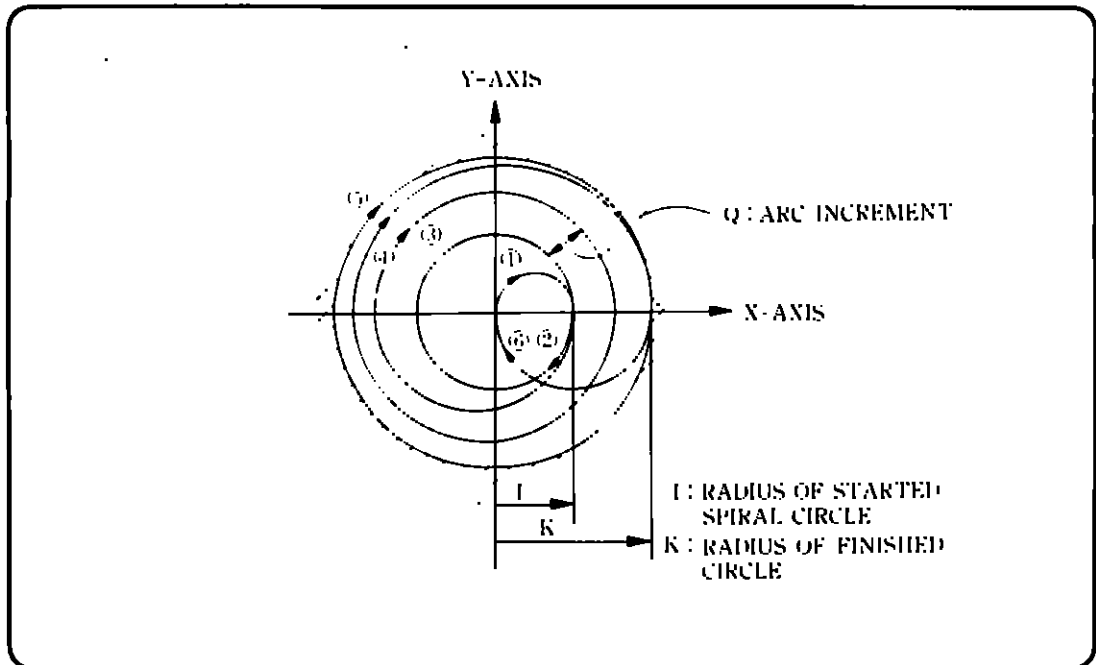

Fig. 2.13.22 Spiral Circle Cutting Specification Q, K
With this command, it is possible to command a cycle in which the circle is cut while moving in a spiral form as shown in Fig.2.13.22. For easy understanding, the diagram below shows an example in which tool radius (D) is set to 0.